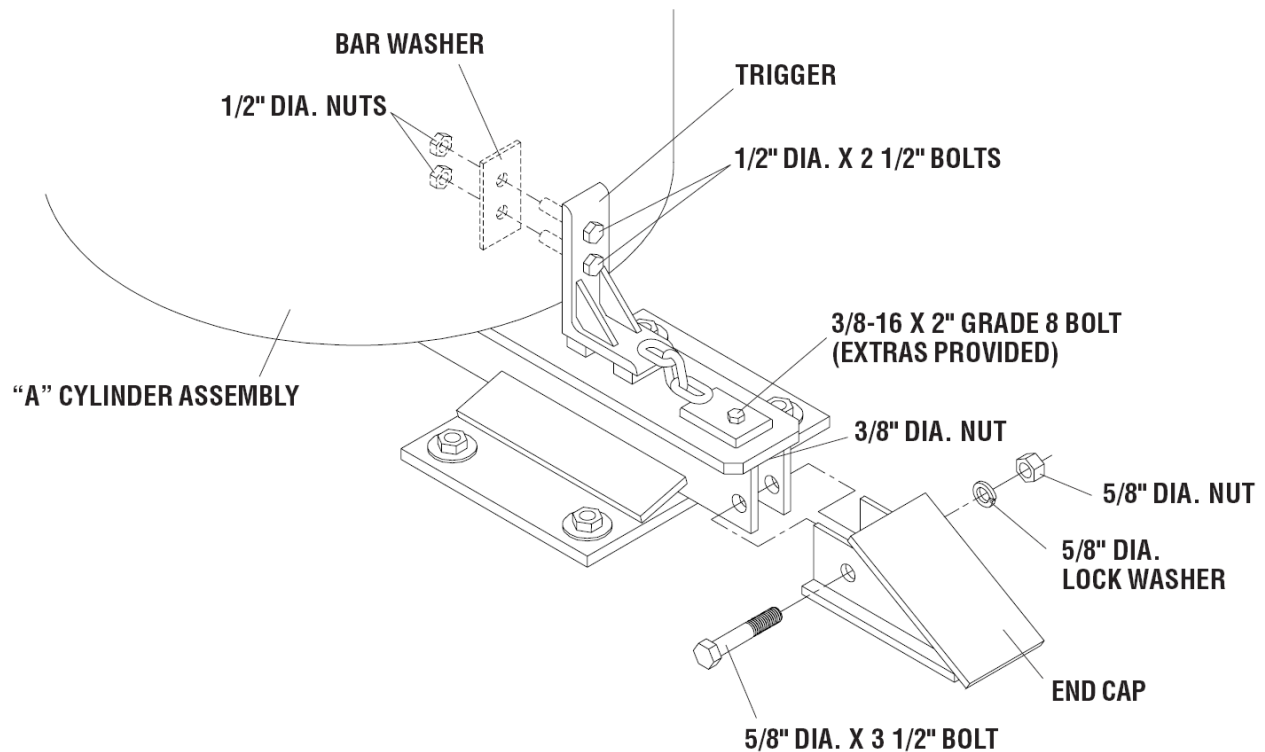

Figure 31
1. Use two 1/2" diameter x 2 1/2" bolts, two 1/2" diameter nuts, and Bar Washer to attach trigger to "A" Cylinder Assembly (Figure 31).
2. Use hole in trigger to locate and drill 7/8" hole in center of Monorail as shown in Figure 31.
3. Use 3/8" diameter x 2" grade 8 bolt and 3/8" diameter nut provided to attach trigger to Monorail (Figure 31).